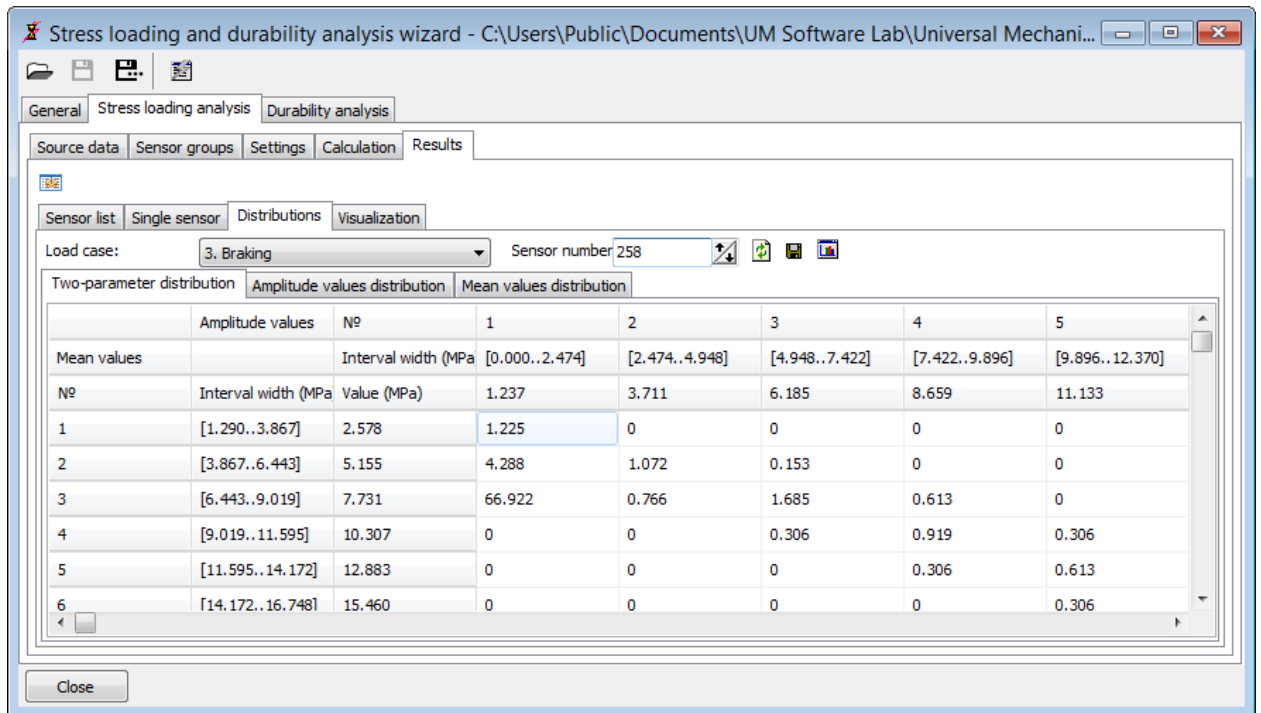

Figure 2.23. Results: stress loading parameters distributions (diagram)
17. To plot the distributions click the  button. Specialized window includes plots of data, shown at the tables, see Figure 2.23.